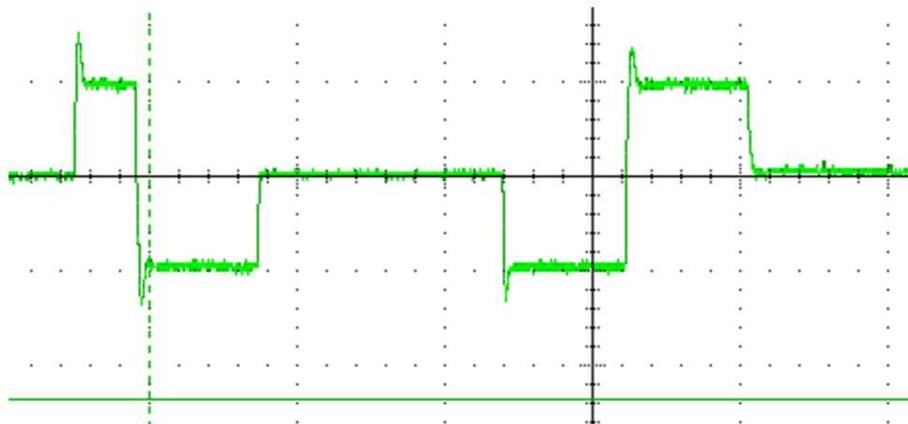

Figure 11. Current Clipping During IPD Process (not Desired)
- Turn ON the motor commutation (either analog or digital). Refer to the tuning guide and data sheet for more details on different methods to turn ON motor commutation. Make sure that motor is locked so that it is not moving or spinning. Monitor phase current on one of the phases and if the current waveform on any of the phases is clipped during IPD process, as shown in Figure 11, decrease 'IPD Current Threshold'.